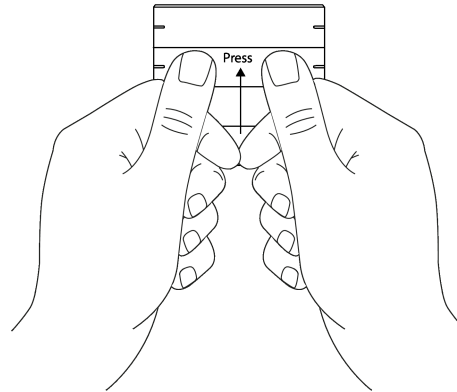

Figure 4: Press lightly in the middle of the rocker
- Press on the rocker with both thumbs (see figure 4).